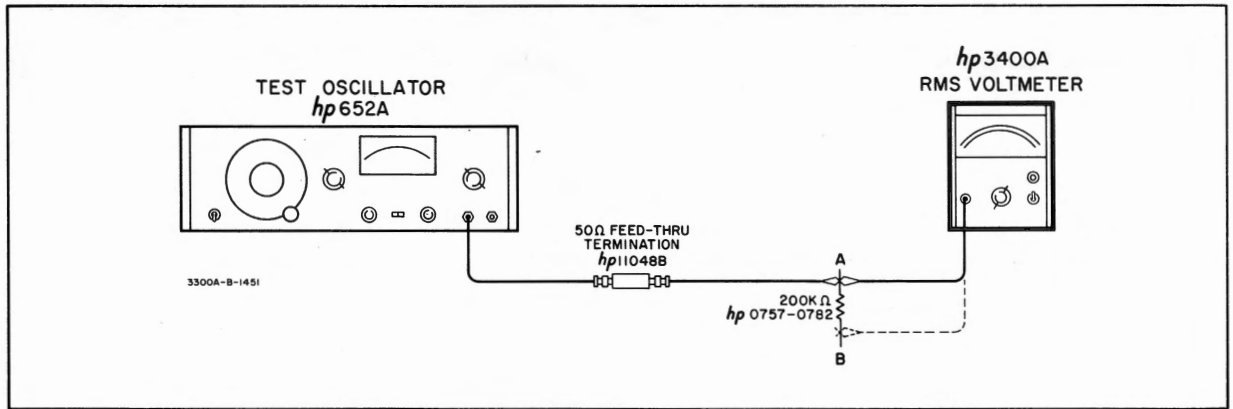

Figure 5-3. Input Impedance Test Setup
- a. Connect the Test Oscillator, 50 ohm feedthru and -hp- Model 3400A to position A in Figure 5-3.
- d. Connect Model 3400A to position B in Figure 5-3. The 3400A meter reading should change less than 0.02 volts (2 minor divisions). This corresponds to an input impedance of 10 megohms.
- Connect Test Oscillator, 50 ohm feedthru and Model 3400A to position B in Figure 5-3. Insert the resistor lead directly into the BNC connector on the 3400A as an adapter adds capacitances to the measurement.